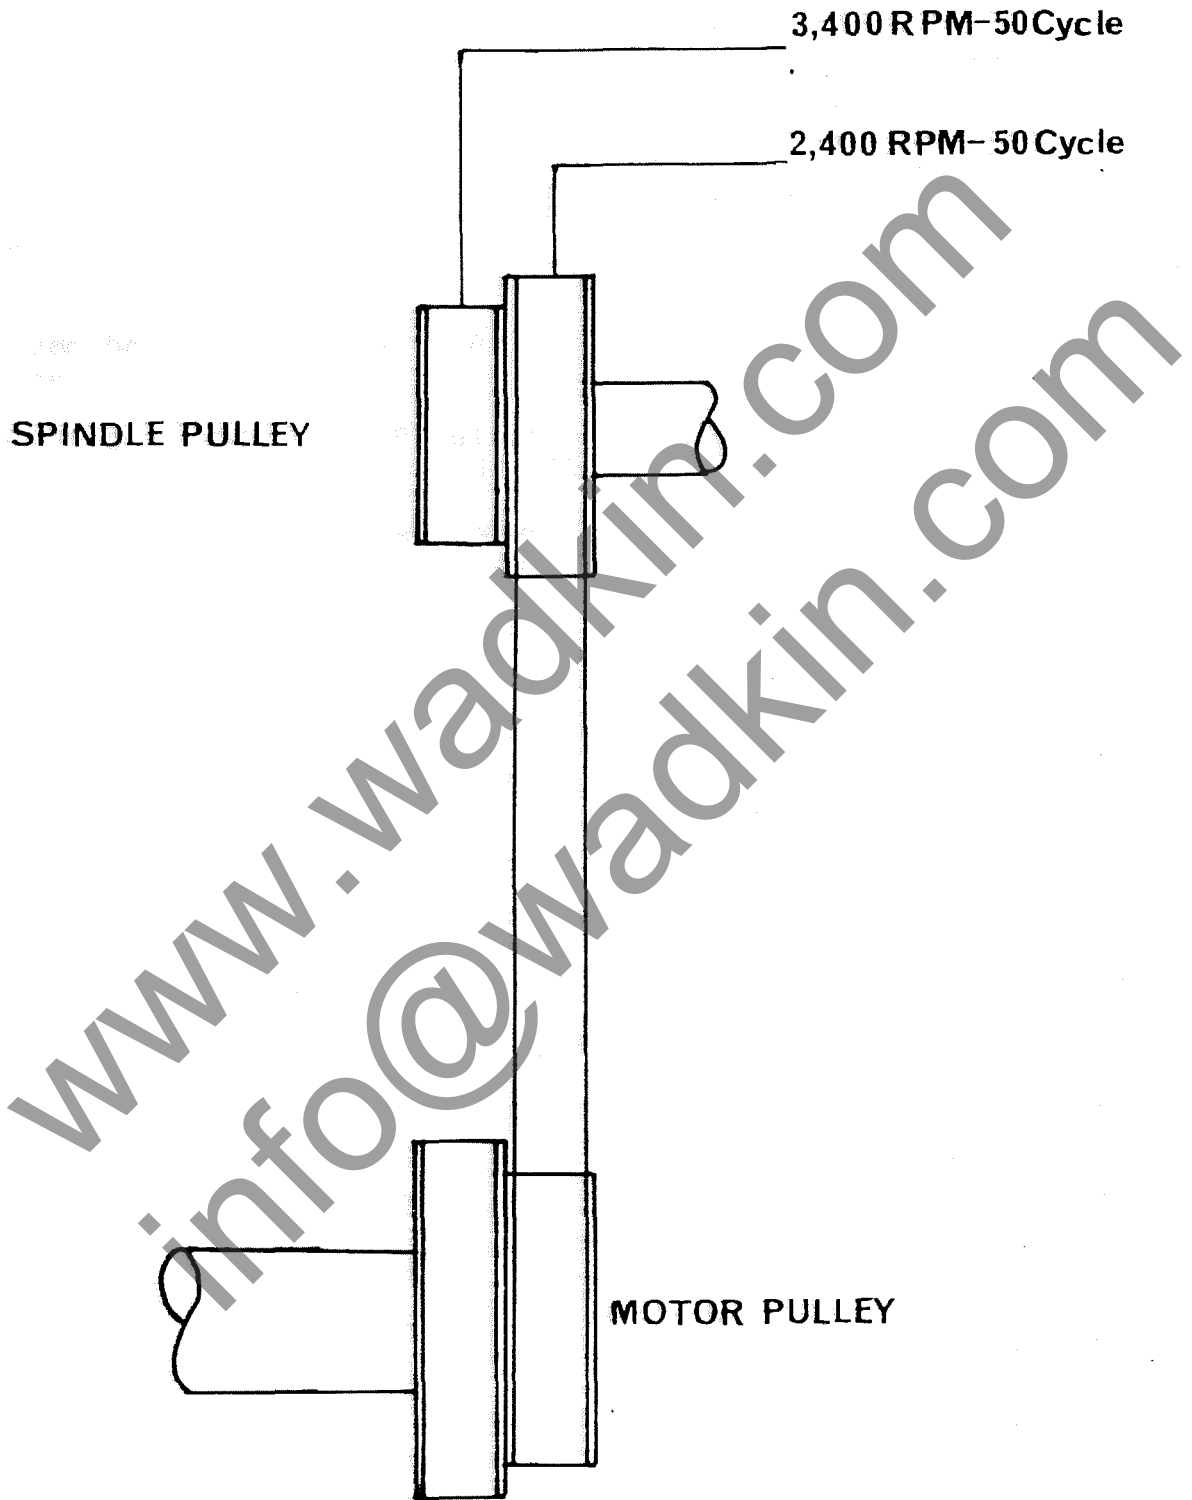

FIG.33.
4. Change belt "C" to required pulley on spindle pulley and motor pulley. See pulley diagram FIG.33 for required spindle speed.